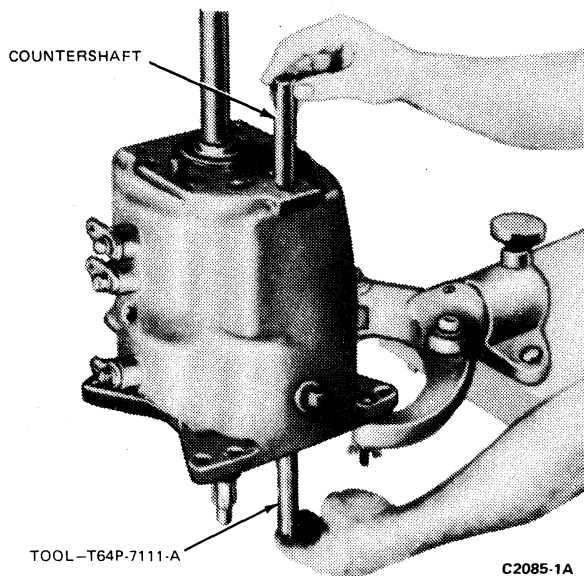

FIG. 17 Installing Countershaft
37. Place the transmission in a vertical position as shown in Fig. 17. Align the countershaft gear bore and thrust washers with the bore and thrust washers with the bore in the case. Install the countershaft.